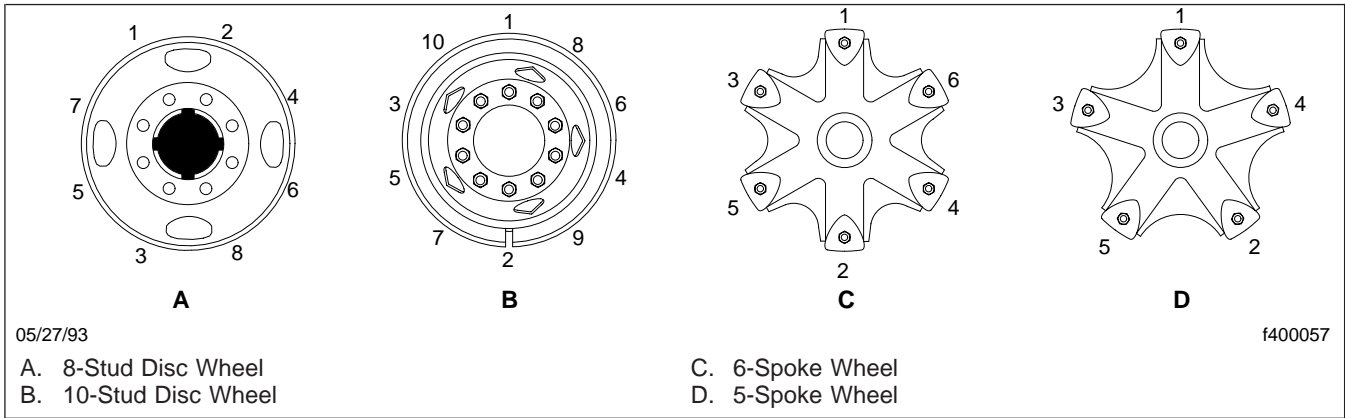

Fig. 1, Wheel Nut and Rim Nut Tightening Sequence
1. Check that the yoke-strap capscrews (see Fig. 1, Ref. 4) are tightened as follows: